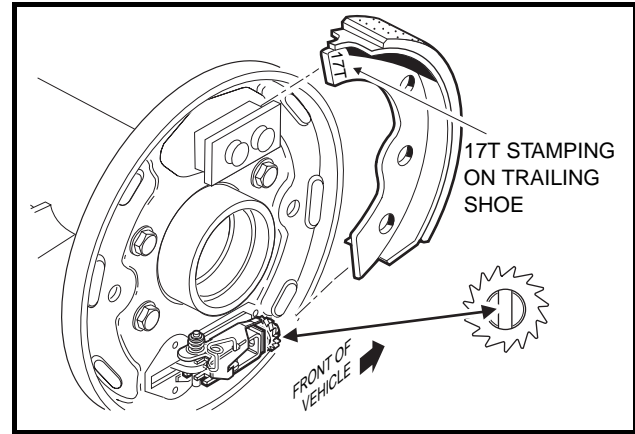

Figure 6-12 Install Adjuster Wheel, Trailing Shoe
1. Turn the adjusting wheel screw so that the shoe slot is vertical, then position the trailing shoe in the slots in the shoe mounting block and adjuster assembly (Figure 6-12, Page 6-6). See following NOTE.
**NOTE:** The trailing shoe has 17T stamped into the tip of the shoe flange (Figure 6-12, Page 6-6). The leading shoe is stamped 17L. When installing the shoes, the stamping on both shoes should be oriented to the top of the brake assembly. When installing the shoes on the passenger side of the vehicle, the side of the trailing shoe flange marked 17T should be facing out and be visible. On the driver side, the 17L on the leading shoe should be facing out and be visible.